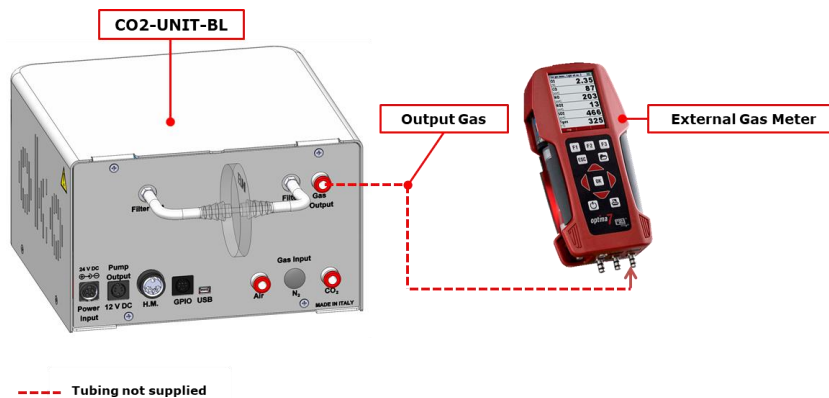

Figure 26. External Gas Meter Connection.
2. Connect the external Gas meter as shown above (see Figure 26). The Gas Meter will read same gas levels that are going into the Top Stage Incubator.